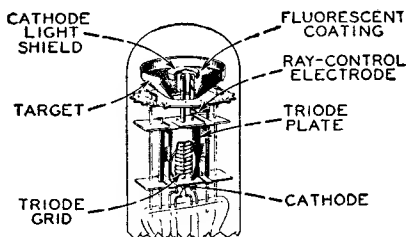

Fig. 53
contain two main parts: (1) a triode which operates as a dc amplifier and (2) an electron-ray indicator which is located in the bulb as shown in Fig. 53. The target is operated at a positive voltage and therefore attracts electrons from the cathode. When the electrons strike the target they produce a glow on the fluorescent coating of the target. Under these conditions, the target appears as a ring of light.